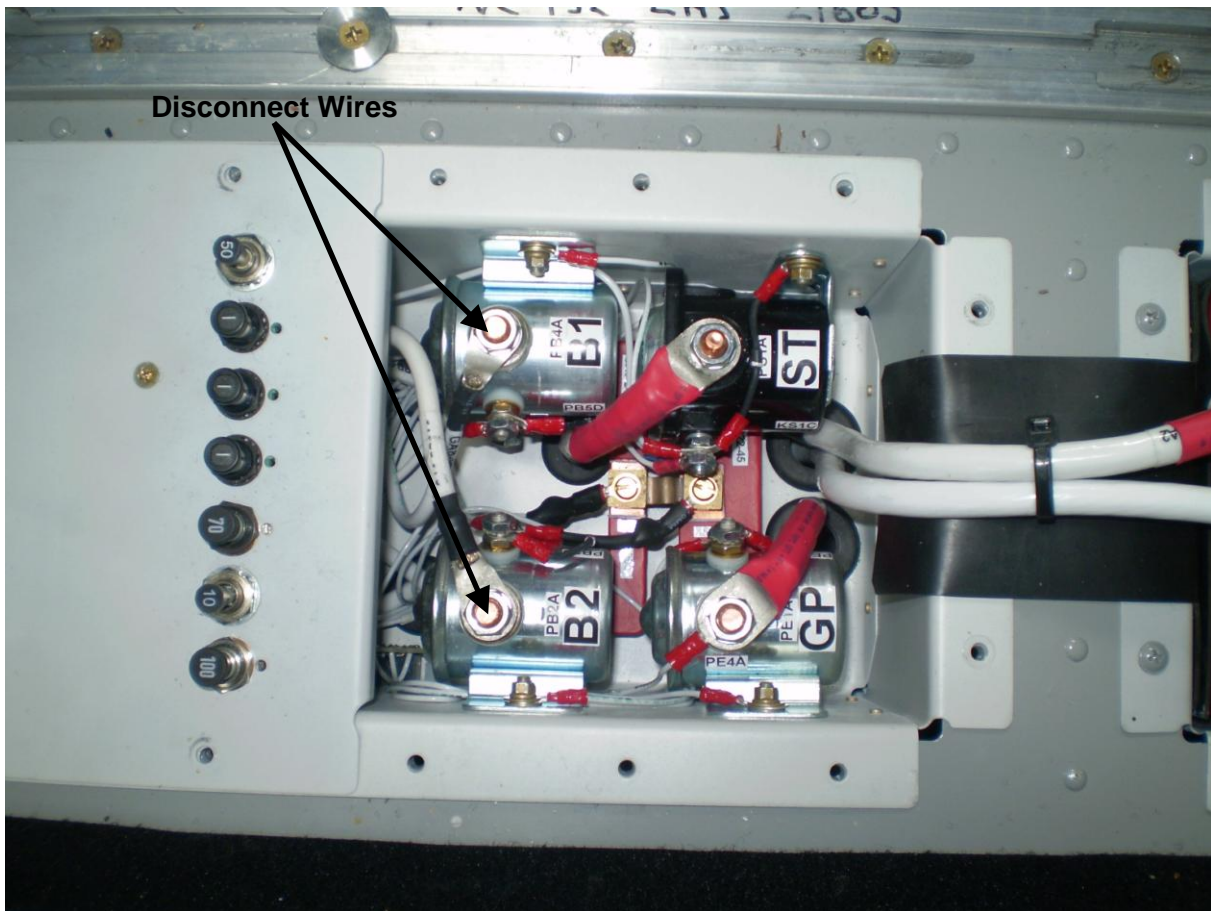

Figure 2 - Showing the first two wires to be disconnected
- Gain access to the Circuit Breaker Assembly and remove this from the main solenoid box assembly. This will require disconnecting of wires PB4A8, PB4B8, PB2A6, PB2B6 to ease the modification of the circuit breaker panel. Refer to Figure 2. Remove the existing 1A breakers from the assembly and discard. Retain the bus bar (GA8-311022-33) for reinstallation.